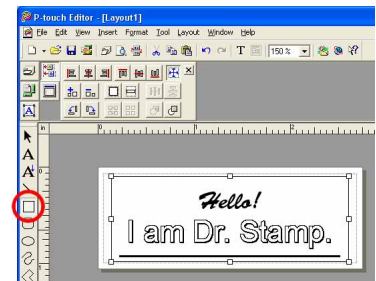

figure 16
- 1 Select the Box tool, and then drag the pointer in the layout area to draw the desired frame (see figure 16).